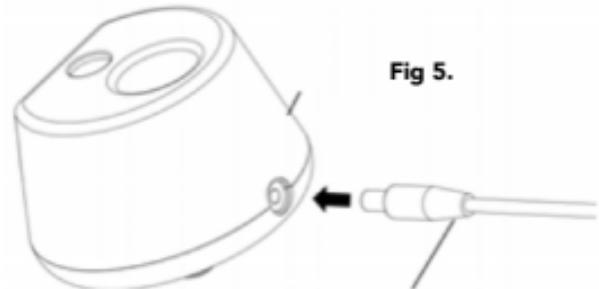

Fig 5.
- Connect the power supply plug to the jack on the back of the charging base as shown in Figure 5 below.